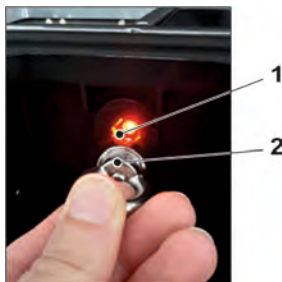

Fig. 31-10 Waking up the NivuFlow Mobile
2. “Waking up” NivuFlow Mobile: hold the accompanying magnet (solenoid, Fig. 31-10 no. 2) to the reed contact (Fig. 31-10 no. 1; on front side of NFM) until the LED is lit.